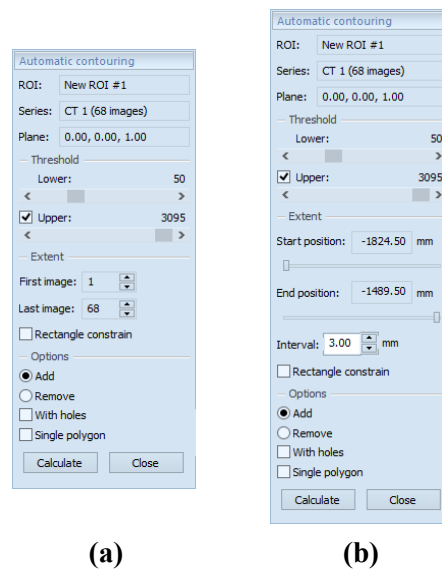

Figure 267 – Auto ROI tool for original images (a), for reconstructed images (b)
3. The **Auto ROI** tool is then automatically displayed as a new tab in the tools panel where you can define the parameters for automatic contouring (see Figure 267).